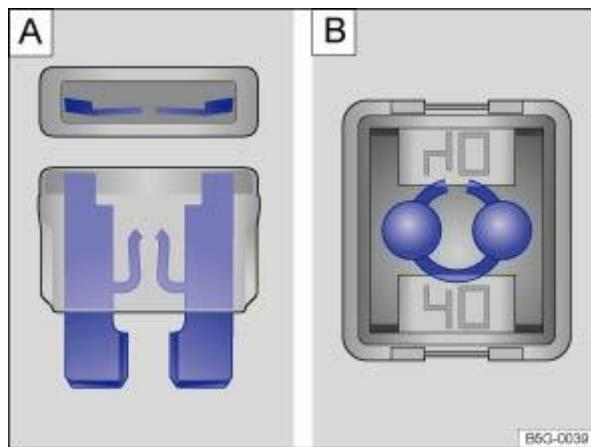

Fig. 174 Blown fuse: flat blade fuse, JCASE® fuse.
② Shine a torch onto the fuse. This will help you to spot a blown fuse more easily.
② If a flat blade fuse (ATO®, MINI®) has blown, this can be recognised from the top and side through the transparent housing due to the melted metal strip ⇒ Fig. 174 **A**.
② If a JCASE® fuse has blown, the melted metal strip can be recognised from the top through the transparent housing ⇒ Fig. 174 **B**.